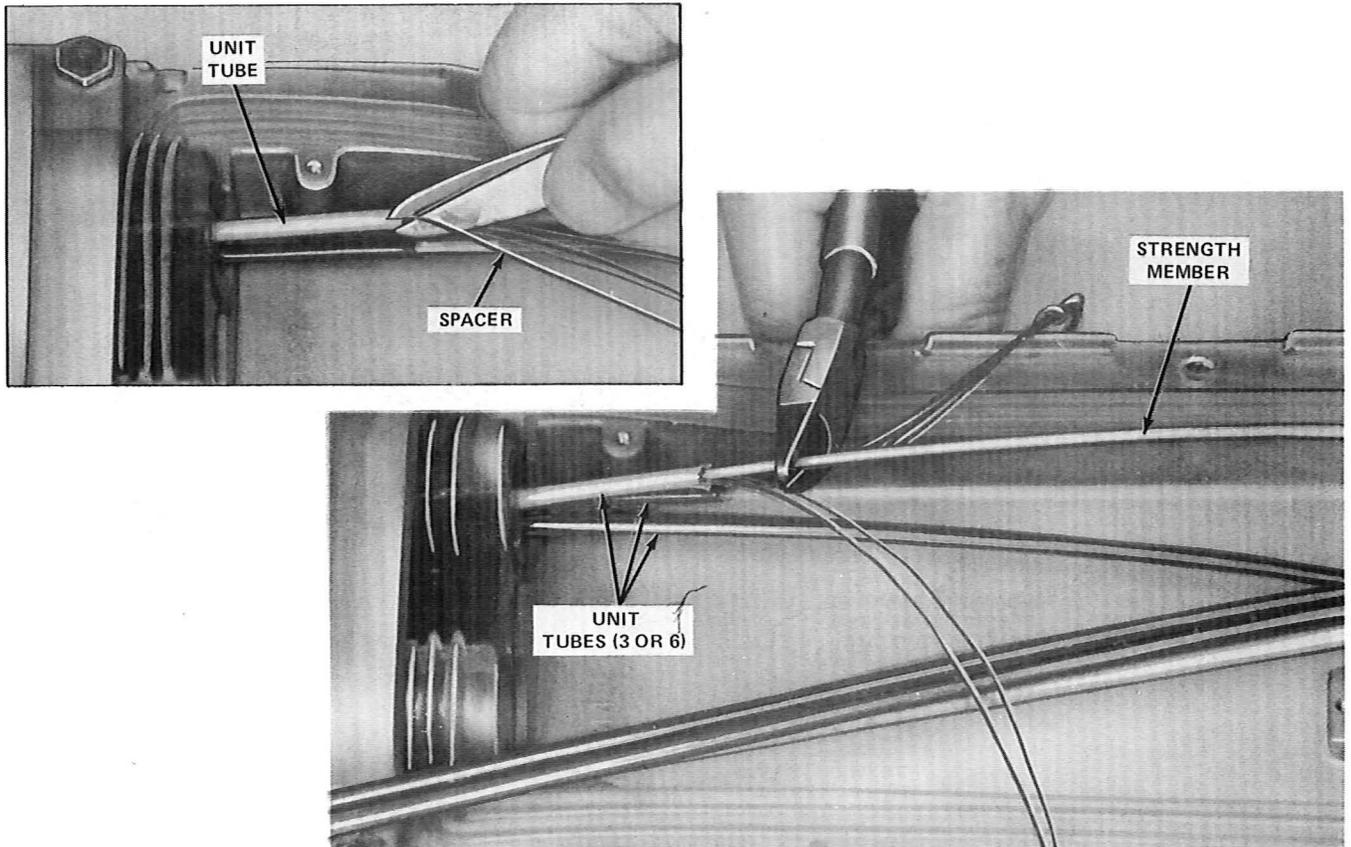

Fig. 44—Cutting Center Strength Member and Spacer Strand (Multiunit Stranded Cable)
6.06 After the unit tube is removed, ensure that all fibers are clear of the strength member and then cut the strength member $3/4$ inch from the end of the unit tube, as shown in Fig. 44.
6.07 Separate the fibers from the spacer strand (one spacer in each unit tube) and then cut the spacer flush with the end of the unit tube. (See Fig. 44.)